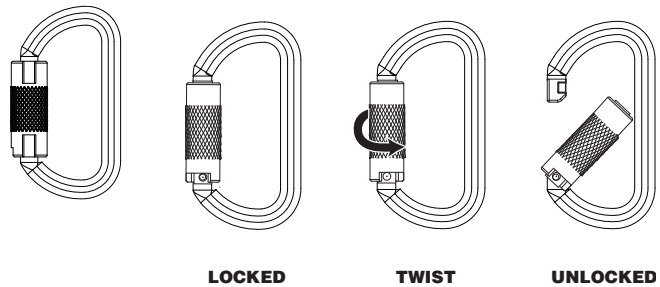

figure 3
2. To connect the carabiner to the harness, rotate the gate clockwise and push to the center of the carabiner. When positioned around a connection point, release the gate to close and lock. See figure 3. The SRL should be attached to the back D-ring.